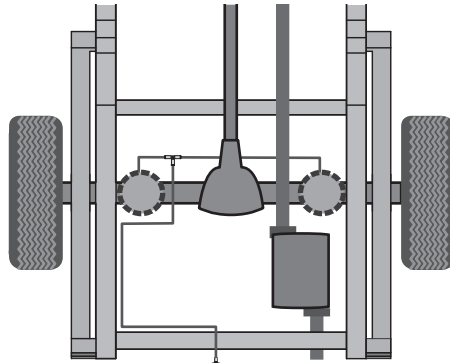
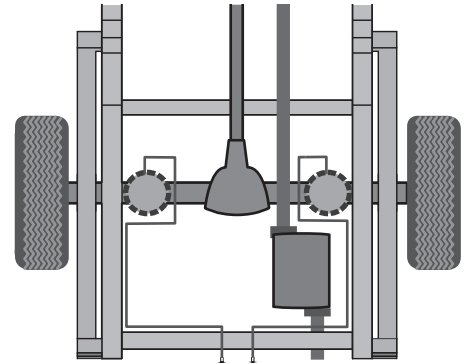

fig. 5
fig. 6
A single-path air line installation is recommended for vehicles that typically have even weight distribution (Fig. 5). If weight in the vehicle varies from side to side and unequal pressures are needed to level the load, use a dual-path installation. For dual-path air line installations, eliminate the tee fitting (J) and route separate air lines for both air springs (Fig. 6).